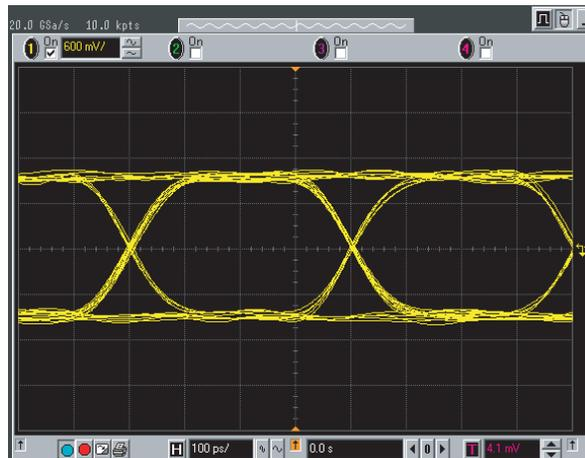

Figure 11: Characterize the jitter with the scope's jitter wizard
- The display should now look similar to the screen shot in figure 11.